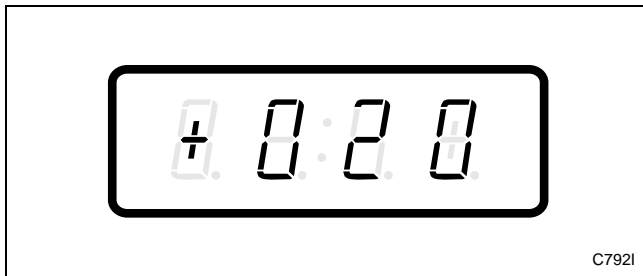

Figure 54
3. Press the DELICATES (+) or the COLD (-) keypad to scroll through the programmable options until “+020” appears in the VFD. Refer to *Figure 54*.